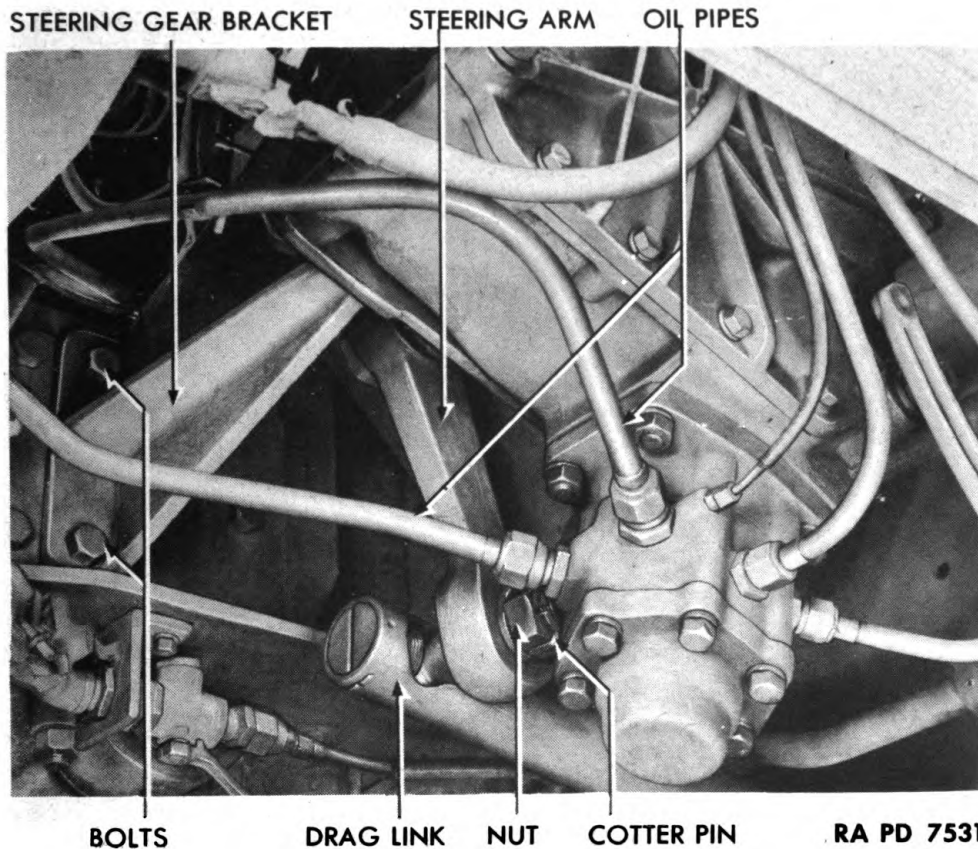

Figure 12 — Steering Gear — Installed
e. **Remove Steering Pitman Arm and Disconnect Hydraulic Lines** (fig. 12). Mark position of arm on lever shaft, remove cotter pin and nut that holds steering arm to drag link, and remove drag link from arm. Remove four bolts, nuts, and lock washers that hold
c. **Connect Steering Arm and Clutch (fig. 12).** Fill hydraulic oil reservoir. Center steering gear, and turn front wheels in straight-ahead position. The ball on steering arm should line up with drag link. If it does not, the arm may be shifted on the splines of the lever shaft. Attach steering arm to drag link, and fasten with nut and cotter pin. Connect adjustable rod to clutch throw-out shaft and clutch cross tube. Install dash to frame bracket (with dash left filler plate and hand brake quadrant), and fasten with two bolts, nuts, and lock washers. Install steering gear bottom cover, and fasten with bolts, nuts, and lock washers.